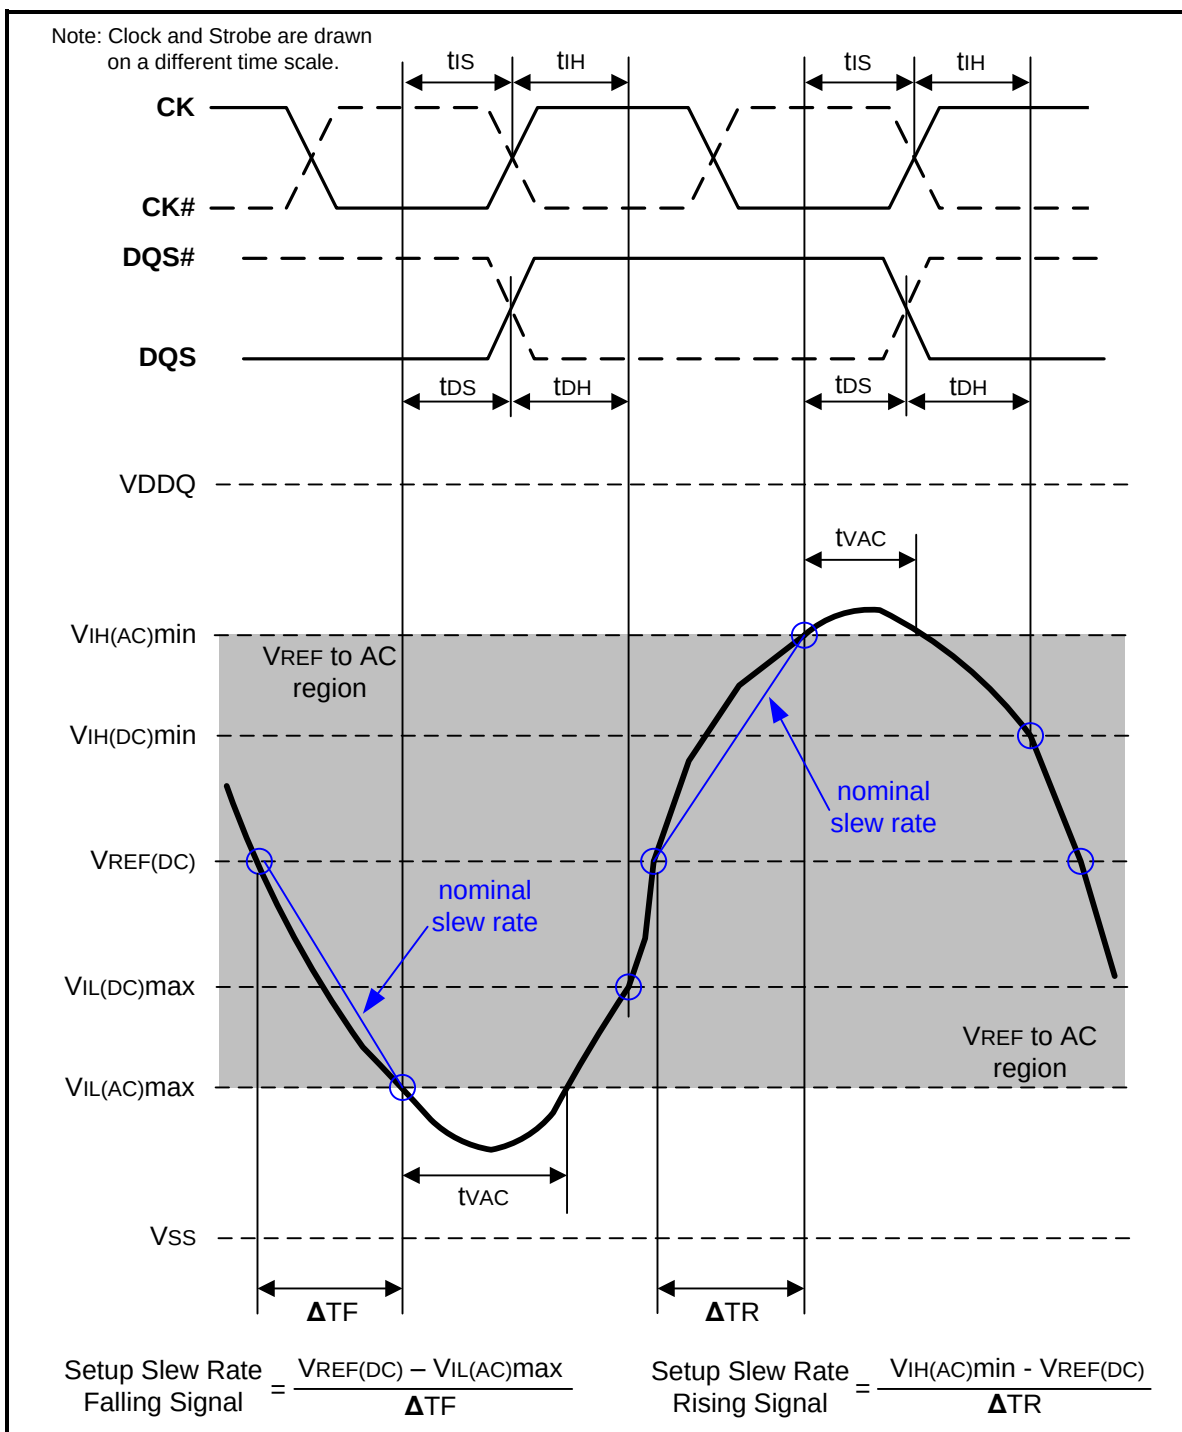
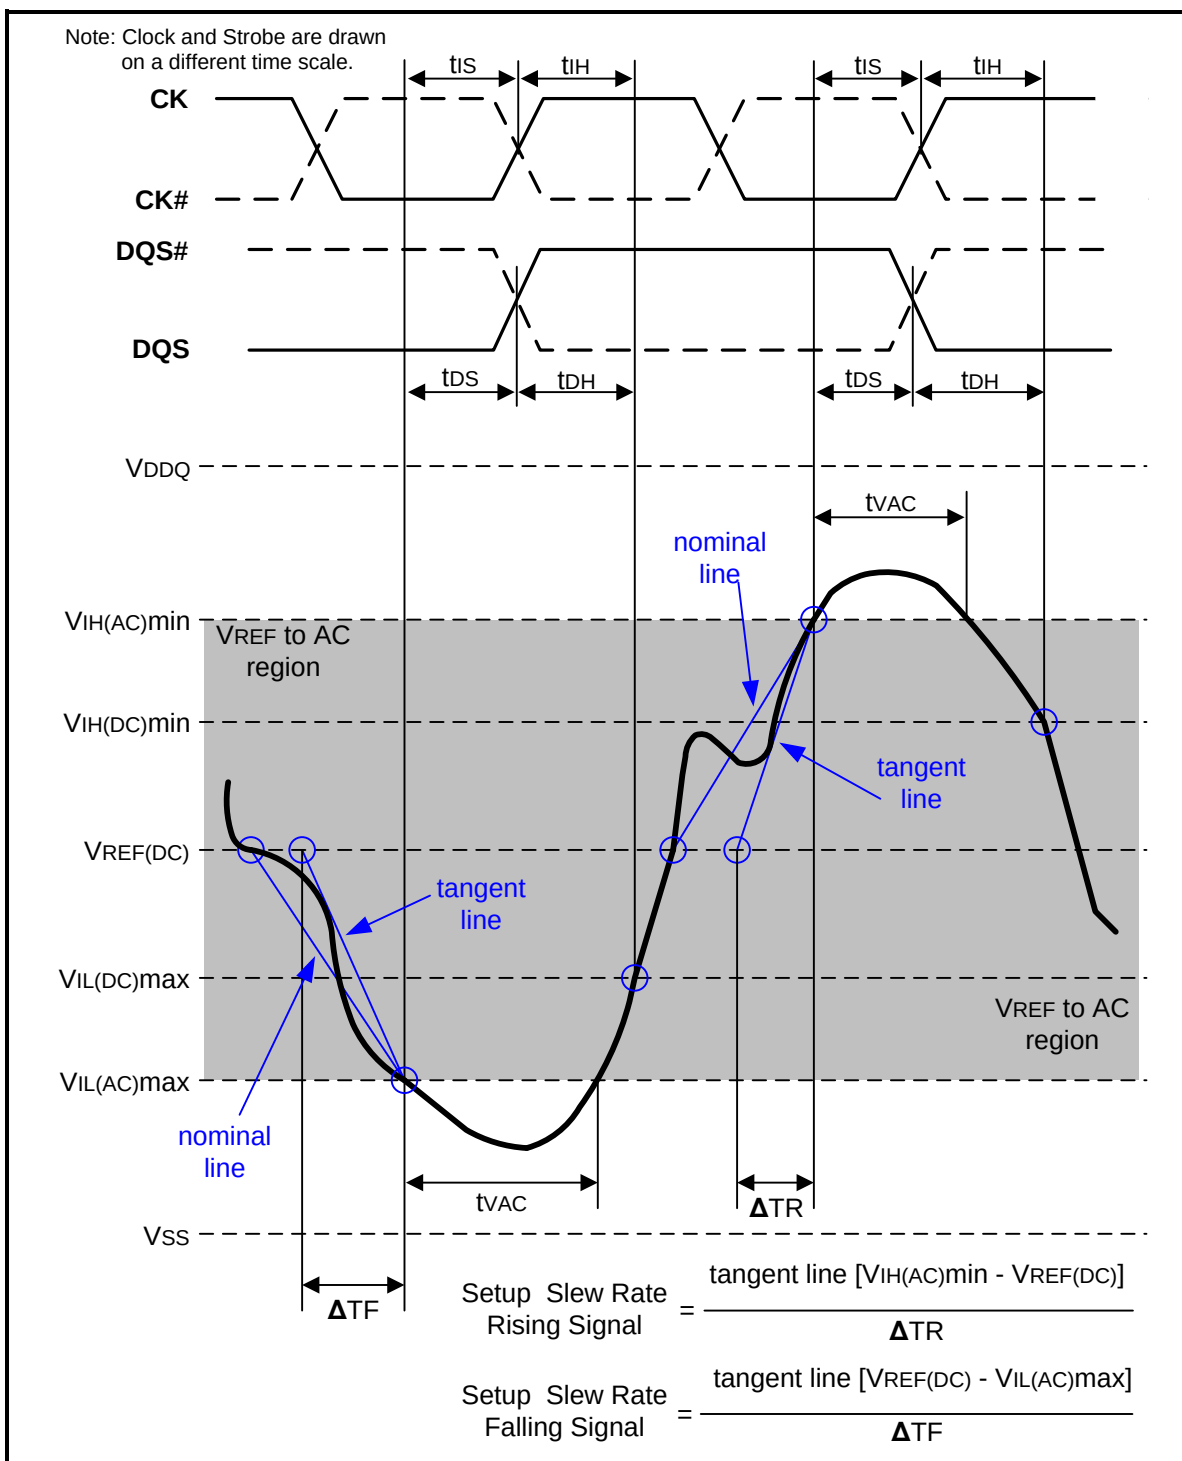

Figure 107 – Illustration of nominal slew rate and t_{vAC} for setup time t_{DS} (for DQ with respect to strobe) and t_{IS} (for ADD/CMD with respect to clock)
Figure 109 – Illustration of tangent line for setup time t_{DS} (for DQ with respect to strobe) and t_{IS} (for ADD/CMD with respect to clock)
Setup (t_{IS}) nominal slew rate for a rising signal is defined as the slew rate between the last crossing of $V_{REF}(\text{DC})$ and the first crossing of $V_{IH}(\text{AC})_{\text{min}}$. Setup (t_{IS}) nominal slew rate for a falling signal is defined as the slew rate between the last crossing of $V_{REF}(\text{DC})$ and the first crossing of $V_{IL}(\text{AC})_{\text{max}}$. If the actual signal is always earlier than the nominal slew rate line between shaded 'VREF(DC) to AC region', use nominal slew rate for derating value (see Figure 107). If the actual signal is later than the nominal slew rate line anywhere between shaded 'VREF(DC) to AC region', the slew rate of a tangent line to the actual signal from the AC level to $V_{REF}(\text{DC})$ level is used for derating value (see Figure 109).
Setup (tDS) nominal slew rate for a rising signal is defined as the slew rate between the last crossing of VREF(DC) and the first crossing of VIH(AC)min. Setup (tDS) nominal slew rate for a falling signal is defined as the slew rate between the last crossing of VREF(DC) and the first crossing of VIL(AC)max (see Figure 107). If the actual signal is always earlier than the nominal slew rate line between shaded 'VREF(DC) to AC region', use nominal slew rate for derating value. If the actual signal is later than the nominal slew rate line anywhere between shaded 'VREF(DC) to AC region', the slew rate of a tangent line to the actual signal from the AC level to VREF(DC) level is used for derating value (see Figure 109).